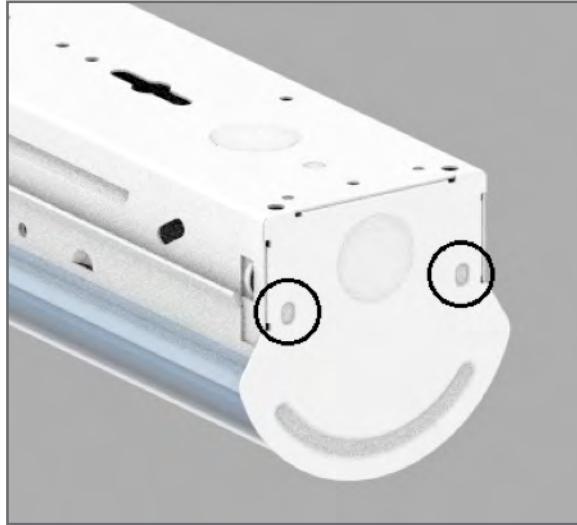

FIGURE 6
1. Remove the two oblong knockouts (circled in Figure 6) on the metal end cap.